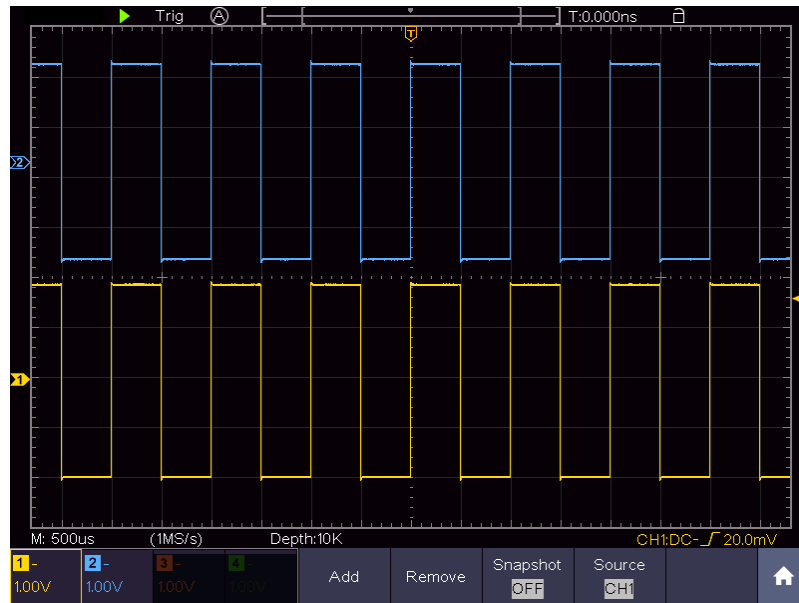

Figure 7-2 Waveform of Gain Measurement
- (1) Push the **Autoset** button and the oscilloscope will automatically adjust the waveforms of the two channels into the proper display state.
- (2) Push the **Measure** button to show the Measure menu.
- (3) Select **Add** in the bottom menu.
- (4) In the left Type menu, turn the **M** knob to select **PK-PK**.
- (5) In the right menu, select **CH1** in the **Source** menu item.
- (6) In the right menu, select **Add**. The peak-to-peak type of CH1 is added.
- (7) In the left Type menu, turn the **M** knob to select **PK-PK**.
- (8) In the right menu, select **CH2** in the **Source** menu item.
- (9) In the right menu, select **Add**. The peak-to-peak type of CH2 is added.
- (10) Read the peak-to-peak voltages of Channel 1 and Channel 2 from the bottom left of the screen (see Figure 7-2).
- (11) Calculate the amplifier gain with the following formulas.